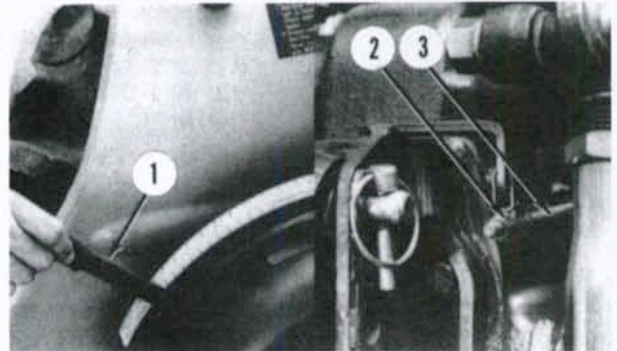

Fig. 159—Dimensions for test bar used in draft control adjustment.
**NOTE:** Test bar can be fabricated using dimensions given in Fig. 159.